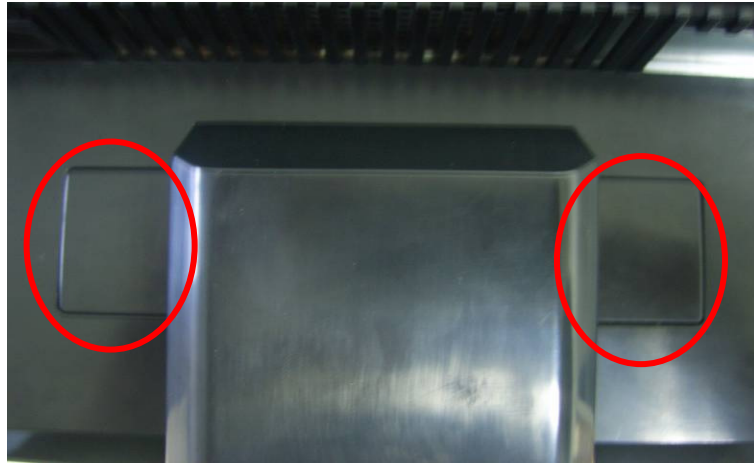

Fig 1
1. Remove the cover hinge marked in red. (Fig 1)